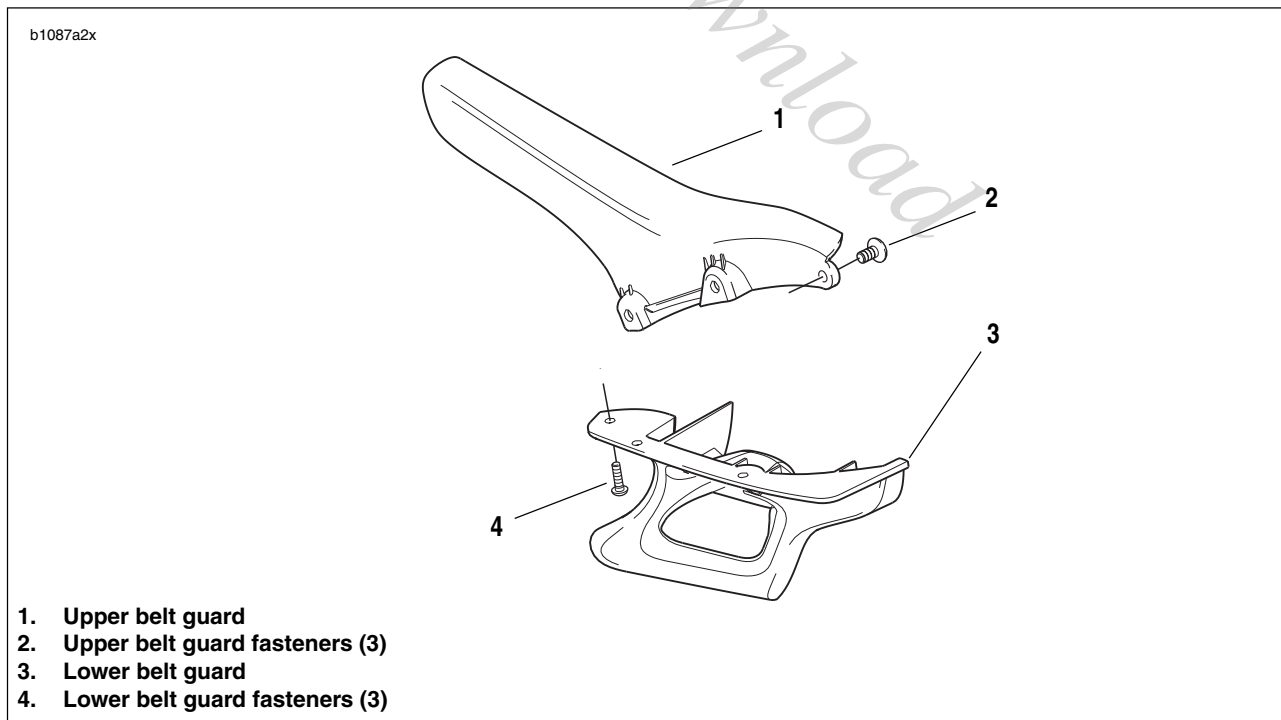

Figure 2-82. Belt Guard Assembly
1. See Figure 2-82. Install the upper belt guard (1) and fasteners (2, 4).